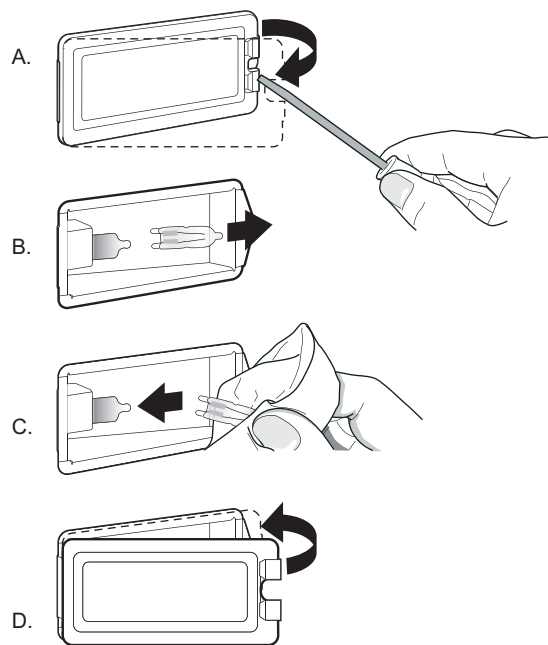

Figure 34: Bulb Replacement
3. Slide the tip of a flat blade screw driver between the holder clip and the lamp housing (*Figure 34, A*). Support the glass lens cover with fingers along the bottom edge to prevent the cover from falling to the bottom of the oven. Gently twist the flat blade screw driver to loosen the glass lens cover.
5. Remove the bulb by grasping and sliding the bulb straight back until the two prongs have cleared the ceramic holder (*Figure 34, B*).
7. Press down to seat the bulb (*Figure 34, C*).
8. Slide the protective lens into the holder clip and push the other end until the fixing clip snaps back into the housing (*Figure 34, D*).